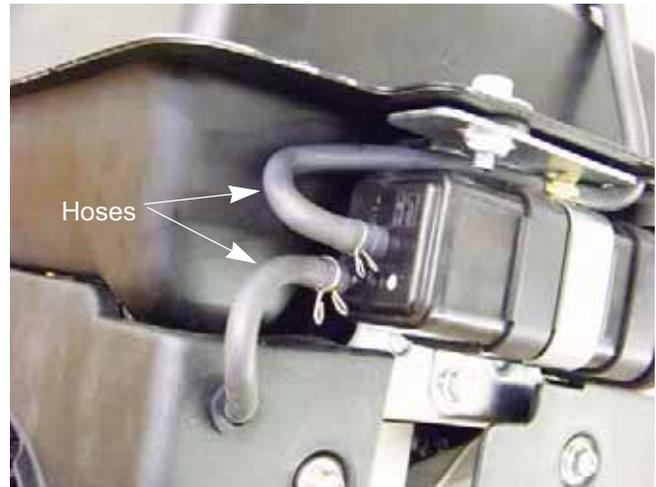

Figure 4.15
1. Disconnect the hoses from the canister. See Figure 4.15.